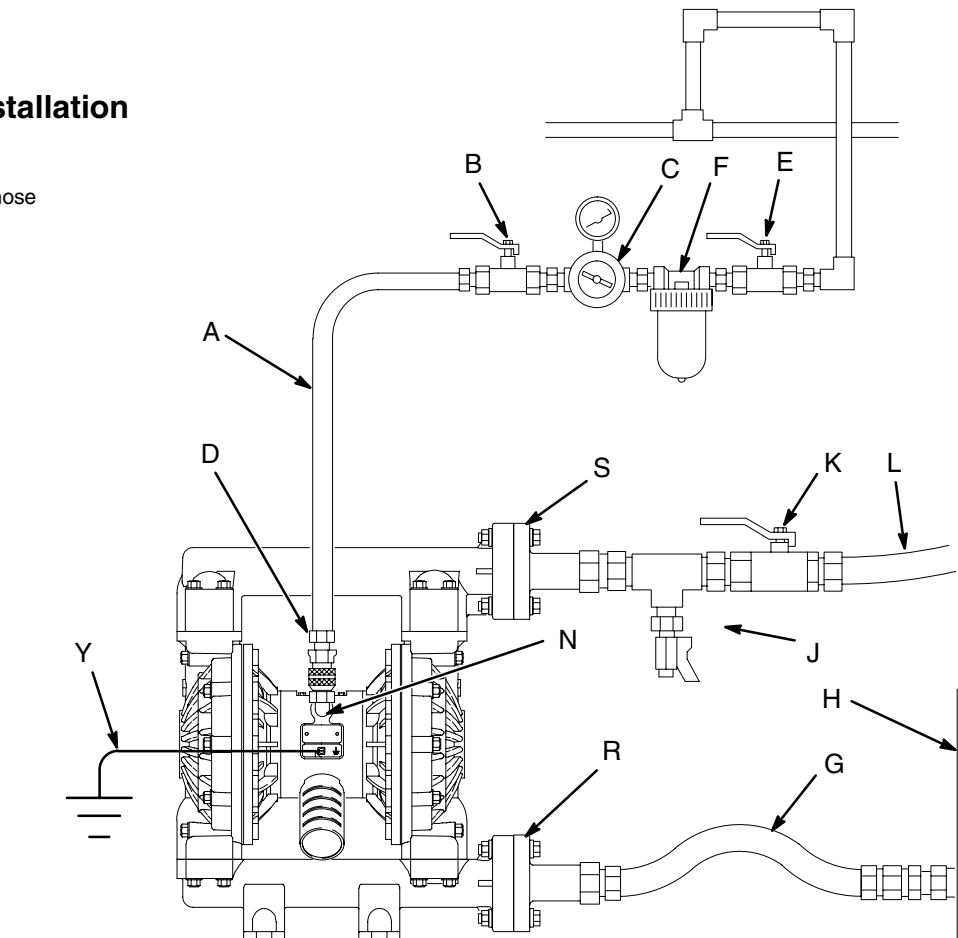

Fig. 2
- The Typical Installation shown in Fig. 2 is only a guide for selecting and installing system components. Contact your Graco distributor or Graco Technical Assistance (see back page) for assistance in planning a system to suit your needs.
A bleed-type master air valve (B) is required in your system to relieve air trapped between this valve and the pump. Trapped air can cause the pump to cycle unexpectedly, which could result in serious injury, including splashing in the eyes or on the skin, injury from moving parts, or contamination from hazardous fluids. See Fig. 2.
1. Install the air line accessories as shown in Fig. 2. Mount these accessories on the wall or on a bracket. Be sure the air line supplying the accessories is electrically conductive.
- a. Install an air regulator (C) and gauge to control the fluid pressure. The fluid outlet pressure will be the same as the setting of the air regulator.
- b. Locate one bleed-type master air valve (B) close to the pump and use it to relieve trapped air. See the **WARNING** at left. Locate the other master air valve (E) upstream from all air line accessories and use it to isolate them during cleaning and repair.
- c. The air line filter (F) removes harmful dirt and moisture from the compressed air supply.
2. Install an electrically conductive, flexible air hose (A) between the accessories and the 1/2 npt(f) pump air inlet (N). See Fig. 2. Use a minimum 1/2" (13 mm) ID air hose.
3. Screw an air line quick disconnect coupler (D) onto the end of the air hose (A); be sure the coupler porting is large enough to not restrict the air flow, which will affect pump performance. Screw the mating fitting into the pump air inlet snugly. Do not connect the coupler (D) to the fitting until you are ready to operate the pump.
### KEY FOR FIG. 2
A fluid drain valve (J) is required to relieve pressure in the hose if it is plugged. The drain valve reduces the risk of serious injury, including splashing in the eyes or on the skin, or contamination from hazardous fluids when relieving pressure. Install the valve close to the pump fluid outlet. See Fig. 2.
1. The pump fluid outlet (S) is a 1–1/2 in. raised face flange. Refer to **Flange Connections** on page 9.
2. Install a fluid drain valve (J) near the fluid outlet. See the **WARNING** above.
3. Install a shutoff valve (K) in the fluid outlet line.